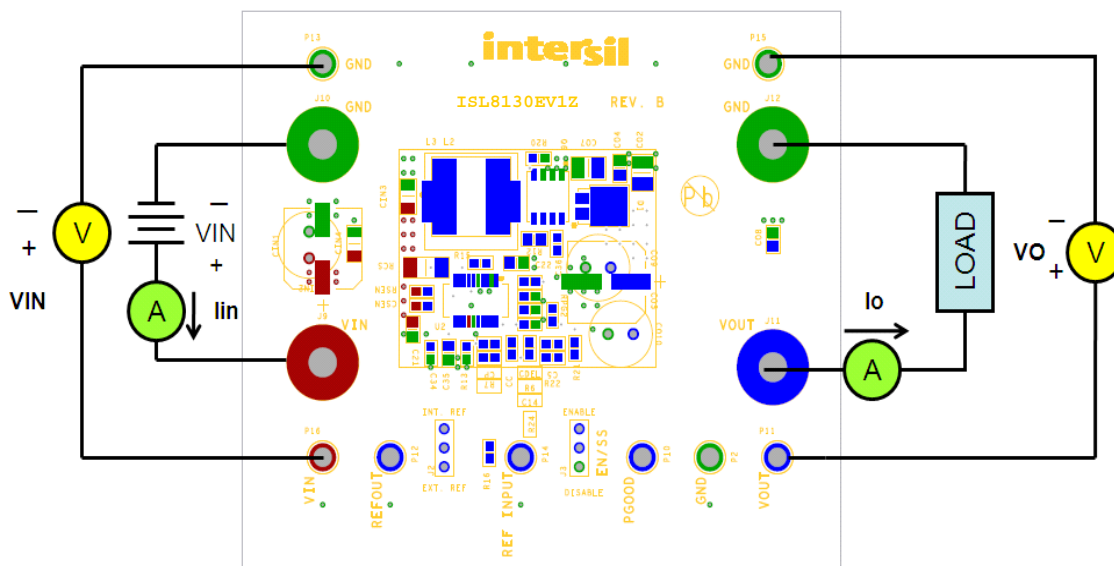

FIGURE 2. ISL8130EV1Z TEST SET-UP
1. Ensure that the Evaluation board is correctly connected to the power supply and the electronic load prior to applying any power. Please refer to Figure 2 for proper set-up.